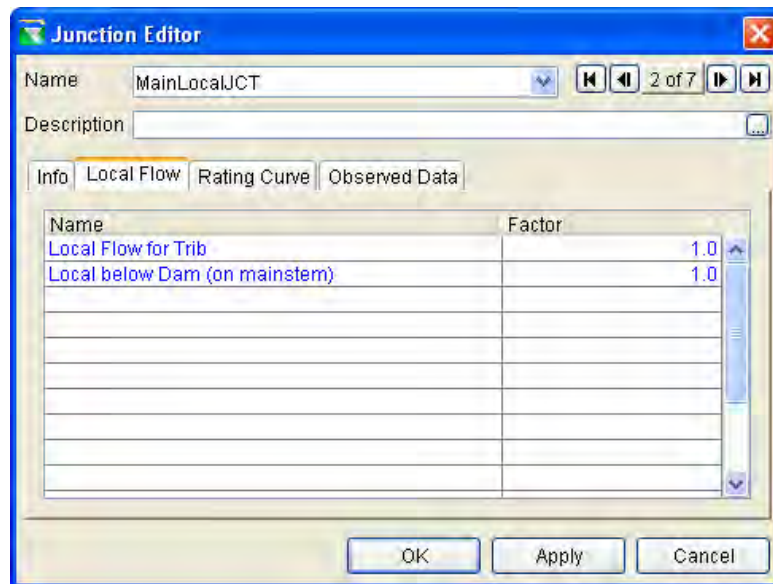

Figure 17 – Junction Editor
- **Edit Junction Properties.** With the pointer tool  or the junction tool  selected, right-click on desired junction and select **Edit Junction Properties**. The Junction Editor will appear. Select the **Local Flow** tab and input a name and factor for each external flow entering the junction (as shown in Figure 17). The name entered will appear during the Alternative definition to identify the local flow for time-series mapping. Therefore, the name given on the Local Flow tab should be recognizable during the time-series mapping. Flows *must* be supplied to headwater junctions and are optional at other junctions.